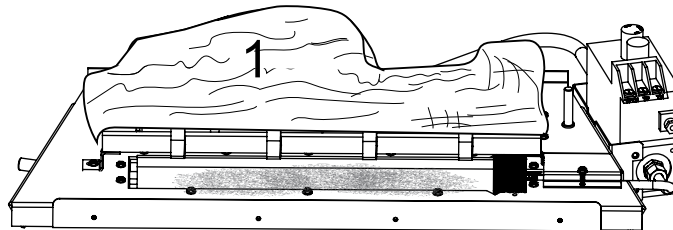

Figure 5.11 - Log #1 Placement
2. Hold log #1 with the pointed end to the left. Place log #1 behind the grate by positioning the two pin locator holes on the bottom of the log over the pins behind the grate. Push the log down to make sure it rests flat over the metal base. See Figure 5.11.